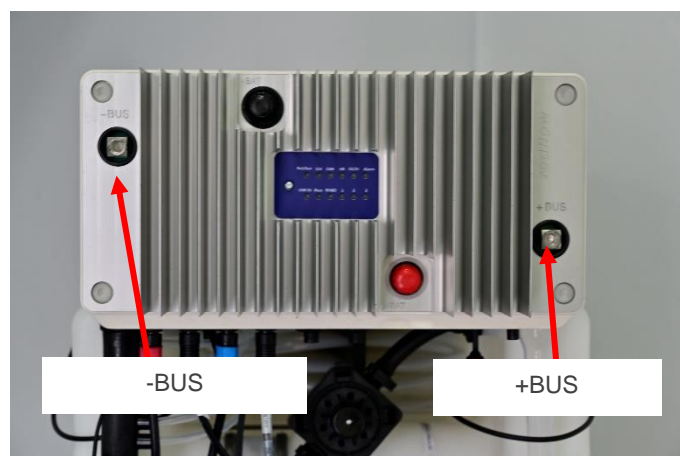

Figure 22: Bus cable connections
Connect positive and negative cables to the input DC bus terminals on the front of the BCM (refer to Figure 22) then to appropriately sized circuit breakers (maximum rating 125A). The bus cables and circuit breakers are not provided with the ZBM, and the cables must be appropriately sized. The bus cables must be terminated with 8mm eyelets.
- STEP 1** To connect the positive bus cable, remove the washer and bolt from the bus terminal (refer to Figure 22).